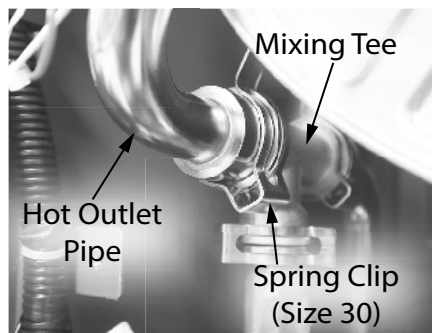

Figure 8 - Mixing tee location
- 22 Locate the hot outlet pipe and mixing tee connection shown in Figure 8. Remove the spring clip (size 30) and set aside in a safe place for reinstallation.